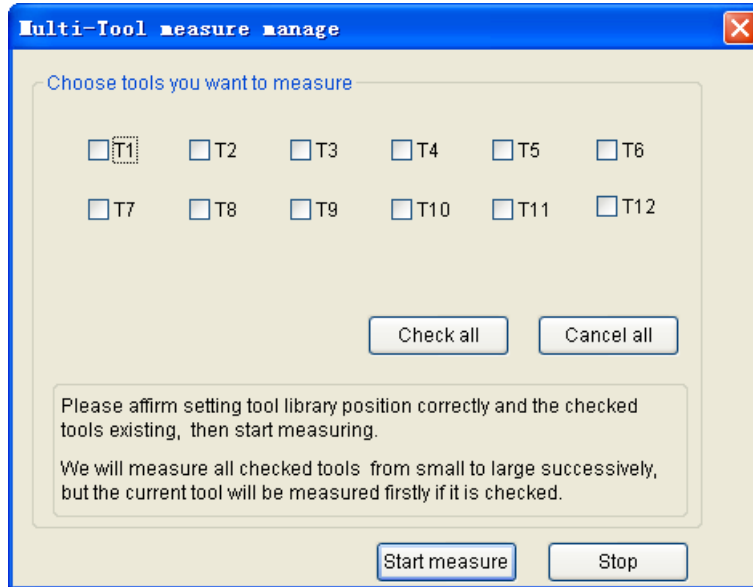

Fig. 9-6 Multi-tool measure manage of disk-tool
- 2) Multi-measurement: it specifies the measurement on multi-tools. When [Multi-Meas] is clicked, the multi-tool measure manage dialog box pops up, shown as Fig. 9-6. You can select all the tools you want to measure and click [start measure]. Measurement sequence: it is suggested to measure the current toll before the next one, sticking to the order of small to large successively.